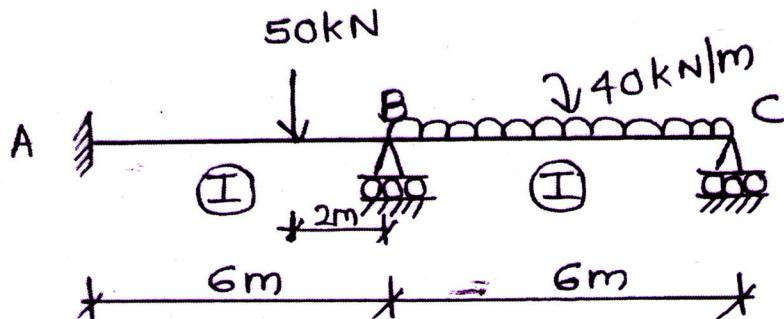

Fig. 2
- 2 a) Analyse the continuous beam shown in Fig. 2 by slope deflection method. Draw the bending moment diagram. (15)